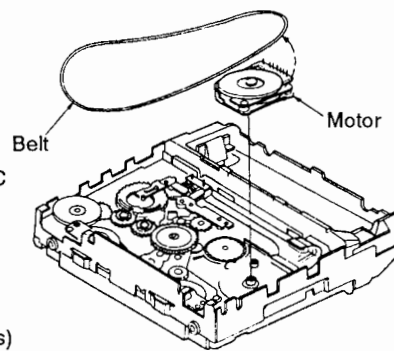

Fig. 3
6. Remove the belt from the motor.(Refer to Fig. 3.)